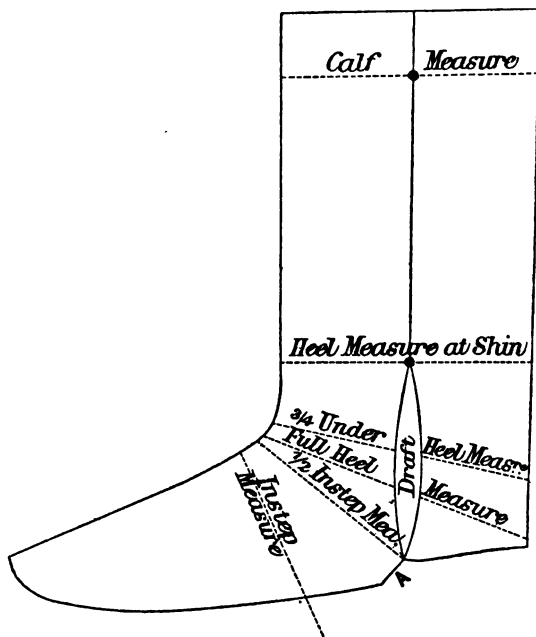

Fig. 26.
**How to Cut and Draft a Wellington.**—As a rule the form and cut of the majority of boots and shoes undergo considerable variations. No such change has characterized the history of the Wellington. As it was cut at the time of its introduction, so it is cut now, or at least with but trifling modification. Cut the back at the bottom of counter as shown in Fig. 26. This cut, as will be seen, slopes upward from the bottom of draft to the bottom of back of counter to the extent of a quarter of an inch. Next place the front and back together in the same position they would occupy if closed, the front overlying the back. Measure the calf, and pierce with awl through front and back while in that position, at the centre of measure as shown by dot. This done, measure the shin (which should be equal to heel measure), as shown by dotted lines marked on figure, and pierce through centre at dot. Then proceed to cut the front of leg, using the straight-edge as a guide, and see that the knife passes through the awl marks (shown by dots), at calf and shin, after which cut the back in like manner. Cut the corner off the front at A as shown in figure at the bottom of side seam, *half the measure of instep*. Place the front and back together, and mark the side half the depth of instep for the top of draft as shown by dot. Overlap and measure at the top of counter, three quarters